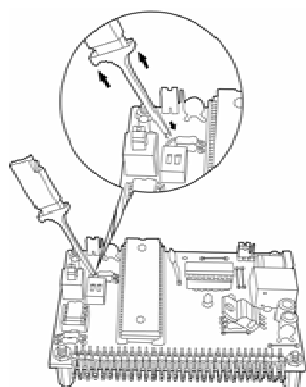

Fig.2-9
- 3-3. Place the metal prongs on a metal connector on the testing board and release the fingers so that the prongs can grip the metal connector (Fig.2-9).